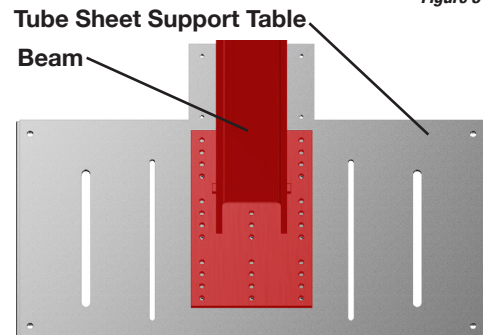

Figure 6
4. Bolt the beam into place onto the Tube Sheet Support Table using (9 Each) of the 130GJ Hex Bolts and 132H Washers (Figure 6).